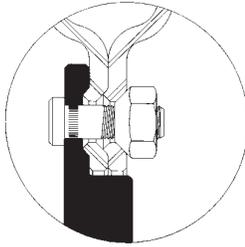

Figure 23
- ➔ With 90° cone nuts $\frac{9}{16}$ "-18, (X-1146,7) or $\frac{5}{8}$ "-18, (X-1148,9), use the tightening sequence shown with Figure 23. The nuts should be tightened to 175-200 ft.-lbs. torque (dry).